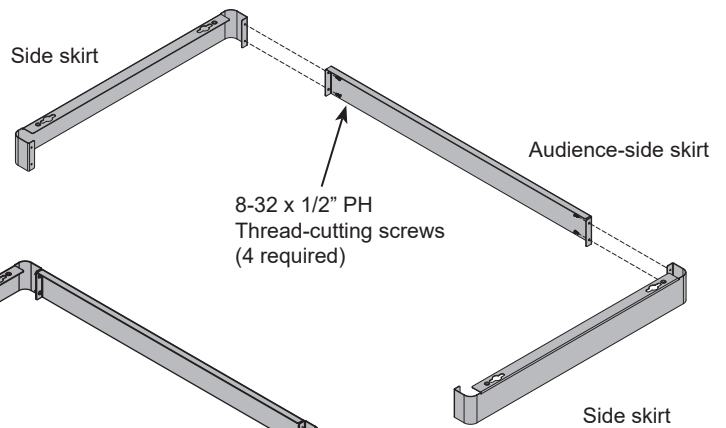

Figure 1.1
1. Attach the two side skirts to the audience-side skirt with (4) 8-32 x 1/2" PH Thread-cutting screws. **Figure 1.1.**